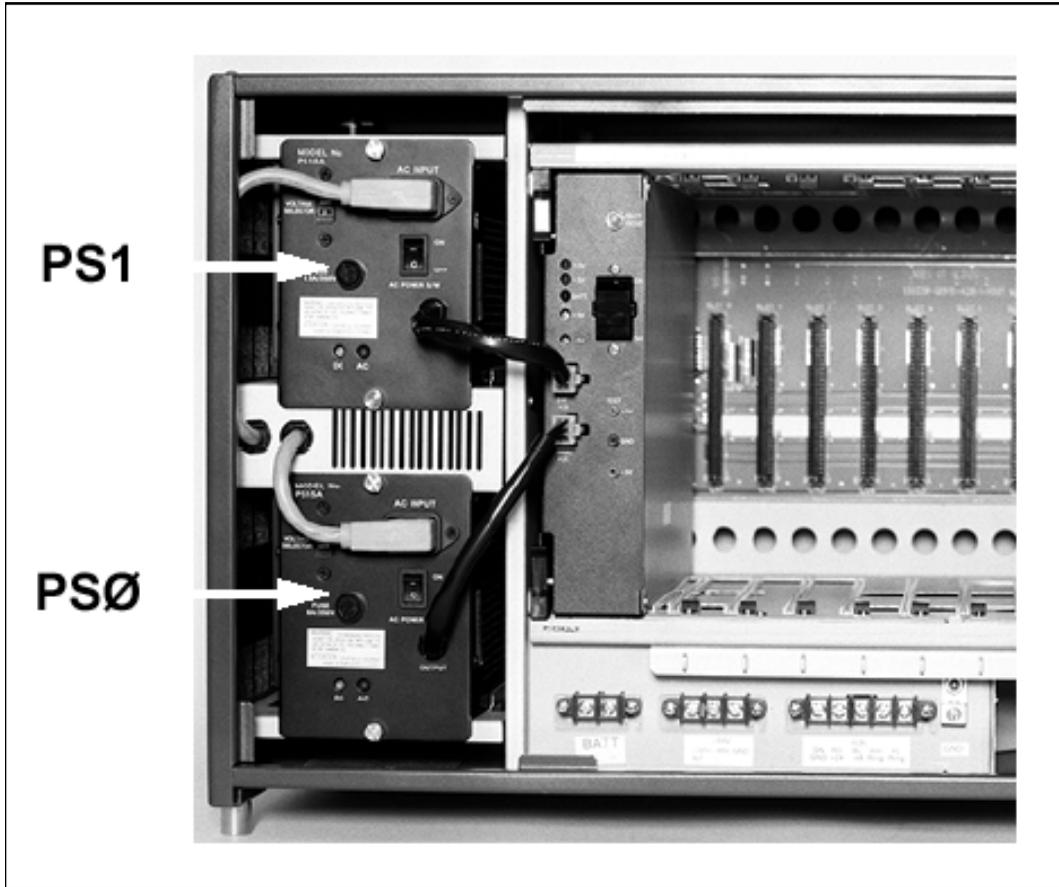

Figure 3-6: AC/DC Power Installation
1. Verify that the Power switch on the AC/DC front panel is off. (Refer to Figure 3-6.) Make sure the Power switches on the DC/DC are in the off position.